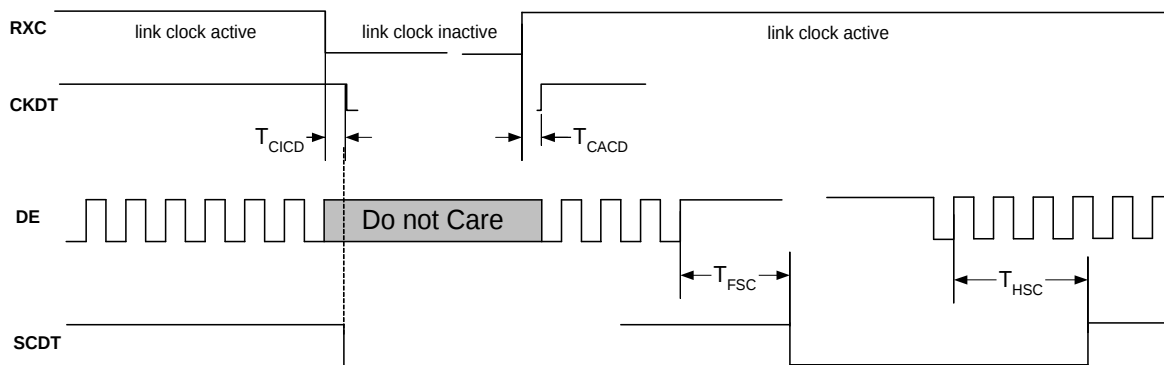

Figure 4.2. SCDT and CKDT Timing from DE or RXC Inactive/Active
1. The SCDT shown in Figure 4.2 is a register bit. SCDT remains HIGH if DE is stuck in LOW while RXC remains active, but SCDT changes to LOW if DE is stuck HIGH while RXC remains active.
2. The CKDT shown in Figure 4.2 is a register bit. CKDT changes to LOW whenever RXC stops, and changes to HIGH when RXC starts. SCDT changes to LOW when CKDT changes to LOW.